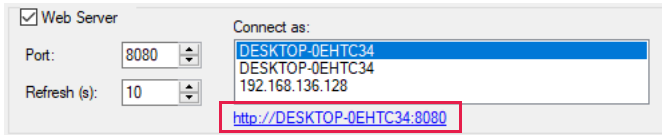

Figure 2-25: Web Server URL
2. In the **Options** dialog box (Figure 2-25), select the **Web Server** check box. Adjust the **Port** and **Refresh** settings and change the **Connect as** IP address if needed. The default **Refresh** rate of 10 will refresh the experiment view in the web browser every 10 seconds. Click **OK**.
3. Click **File > Options** to access the **Options** dialog box again. A **Web Server URL** will now be listed under the **Connect as** box (Figure 2-25). Record this URL as it will be needed to access the experiment remotely.